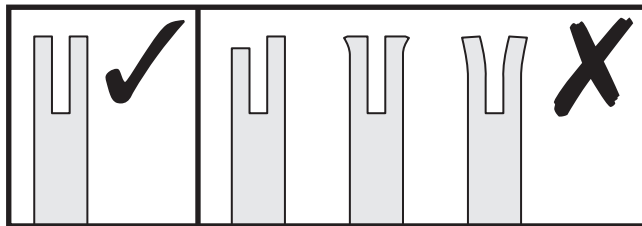

Fig. 16
4. Check the guide bar 'rail' for wear: Hold a ruler (straight edge) against the side of the guide bar and 'cutter side plates'. If there is a gap between the ruler and guide bar the guide bar 'rail' is normal. If there is no gap (ruler flush against the side of the guide bar) the guide bar 'rail' is worn and needs to be replaced with a new one of the same type (Fig. 16).